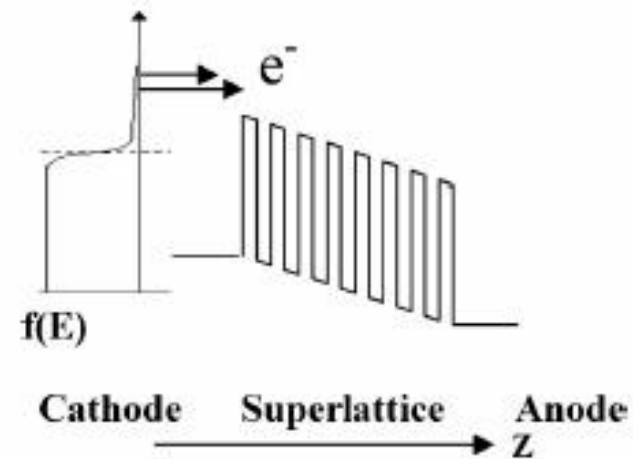

FIG. 1. Schematic energy diagram of a heterostructure integrated thermionic (HIT) microcooler along with electron energy distribution and the Fermi level.
Fig. 1. Schematic of the one-leg thermoelectric cooling device test setup. The setup consists of a thermoelement (TE) with plated metals at both ends of the slab. One end of the TE has a cold junction thermocouple (TC) and a metal wire soldered to the metallized layer. The hot junction end of the TE is soldered to a copper heat sink. A TC is embedded in the solder. The other end of the metal wire is soldered to the second massive copper heat sink. An electrical current source is connected to the two copper
FIG. 1. Schematic of basic thermal diode structure. A highly doped emitter on the hot side injects current into a solid gap region, where carriers diffuse to the collector. A hindering layer near the collector makes it so that a greater thermally induced potential is required to develop an ohmic return current.